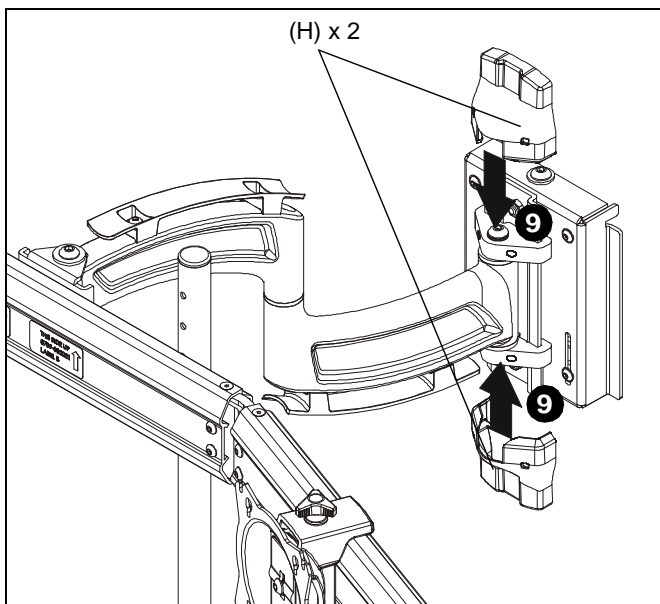

Figure 6
9. Install two wall bracket covers (H) onto wall bracket. (See Figure 6)